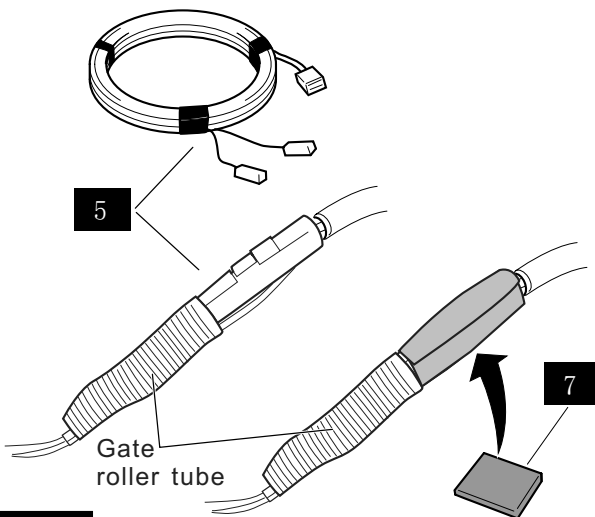

Fig.10
(1) Wrap the fuse of harness **5** with one of Urethane foam tape **7**. Shown in Fig. 10.